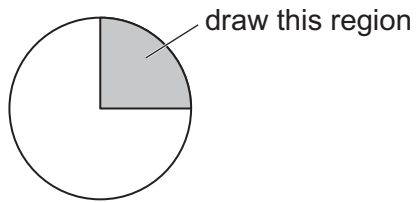

Fig. 2.1
- (a) (i)** Draw a large plan diagram of the region of the stem on slide **J1** indicated by the shaded area in Fig. 2.1. Use a sharp pencil.